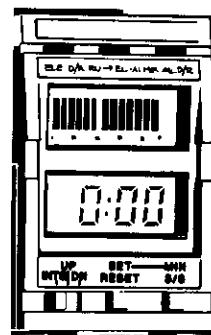

FIGURE 14
Set the transmitter power switch (10) to "ON", and INTG-UP-DN switch to "INTG" Figure 14. The blinking dots on the timer display indicate that timing has begun, and the total elapsed time that the transmitter is on will be displayed. For example 0:04 indicates that 4 minutes have elapsed. If the transmitter power switch (10), is set to "OFF", counting stops. When the transmitter power switch is turned back on, counting continues. The integrating timer function can be started and stopped every time the transmitter power switch is set to "ON" and "OFF". To clear a count, depress the "Set-Reset" button, with the transmitter switch either "ON" or "OFF". When the transmitter is turned back "ON", a new count will begin. The total elapsed time can be used to forecast remaining NiCd battery capacity as well as other applications. Total time of operation can be displayed such as 1:25, i.e., 1 hour, 25 minutes etc.
The "Up-Timer" can be activated with the transmitter on or off. The "Up-Timer" can be started or stopped by either the button labeled "S/S" on the front panel or by the Start/Stop stopwatch button on the right rear (30), of the transmitter. When the transmitter power switch (10) is set to "ON" an audible beep tone will be heard at each elapsed minute as well as when the Start/Stop button(s) are depressed. The count can be stopped and/or count resumed by pressing the Start/Stop button(s). The total elapsed time of the count is displayed on the liquid crystal display panel, Figure 14. For example, 1:02 indicates that 1 minute and 02 seconds has elapsed. The count can be cleared by depressing the "Set-Reset" button on the front panel.